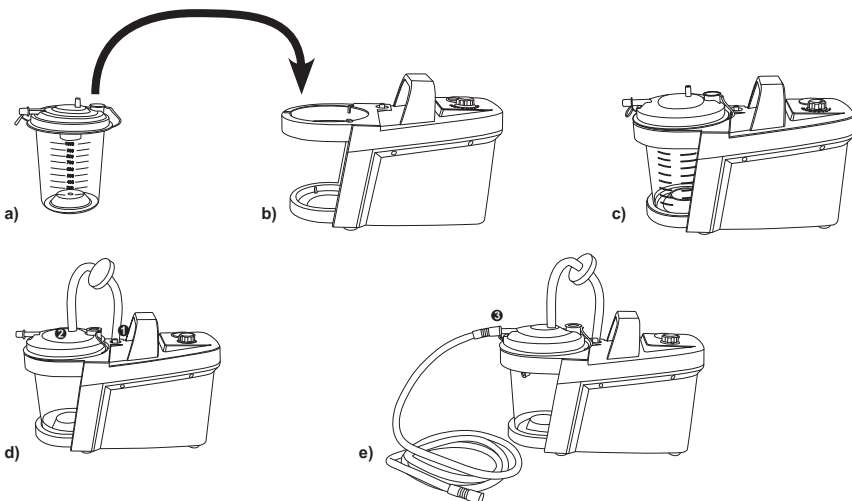

Figure 6
- Press it onto the container (Figure 6/a-c) with both hands as far as it will go, exerting light pressure.
- The filter is connected between the connection on the suctioning device (❶) and the connection for the suctioning device in the centre of the secretion container lid (❷) with the aid of the two short connecting tubes (Figure 6 / d).
- Connect the suction tube to the connecting piece at the side of the secretion container lid (❸), turning it slightly (Figure 6 / e).